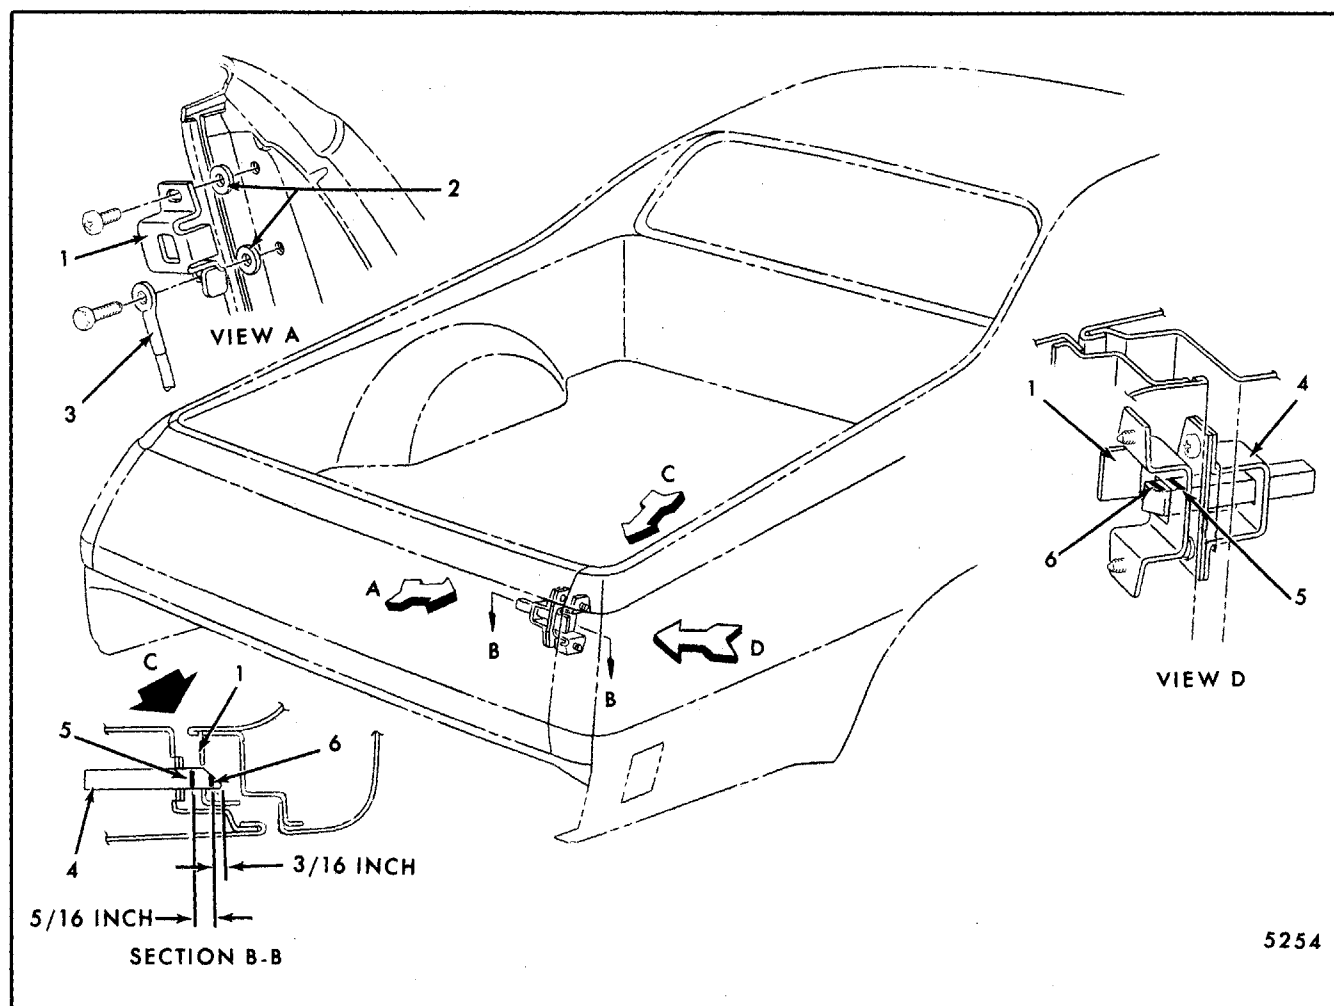

Fig. 7-102 - Tailgate Latch to Striker Adjustment
2. Dimensional specifications for use of latch striker spacers are found in Figure 7-102.
- b. To determine if tailgate latch striker spacers are required, mark the latch as indicated in Section B-B, Figure 7-102, with a bright colored crayon, then slam gate closed to insure full latch to striker engagement.
- c. If marks A and B are visible when viewed through gap between back body pillar and tailgate pillar (arrow C, Fig. 7-102), install a spacer (1/16" thick plated flat washer - 1/2" I.D.) between striker and pillar at striker attaching bolt locations. Add additional spacers as required until only mark B is visible inboard of striker.